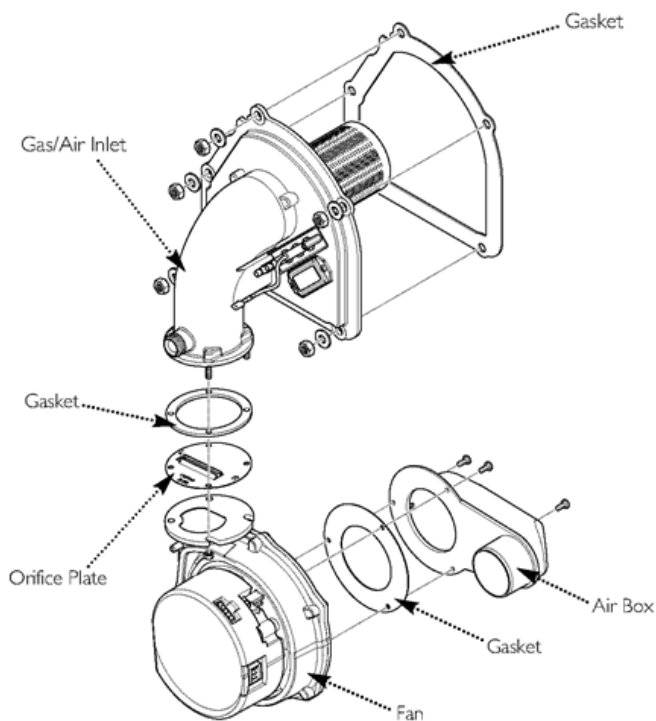

Fig. 58
4. Undo the five retaining nuts and washers and remove the fan, gas/air inlet and burner assembly (Fig. 58).
6. Remove the four nuts and separate the fan from the gas/air inlet. Note the position of the orifice plate and examine the gasket, replacing if necessary (Fig. 58).